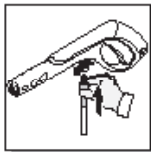

Fig. 5
- Connect the other end of the Soft PVC high pressure hose to the spray gun by inserting the brass metal tip of the Soft PVC high pressure hose into the fitting just ahead of the trigger guard. It will lock into the spray gun with a "click" (Fig. 5). Confirm the hose is locked into the spray gun by pulling slightly on the hose. The hose is now securely attached to the spray gun.